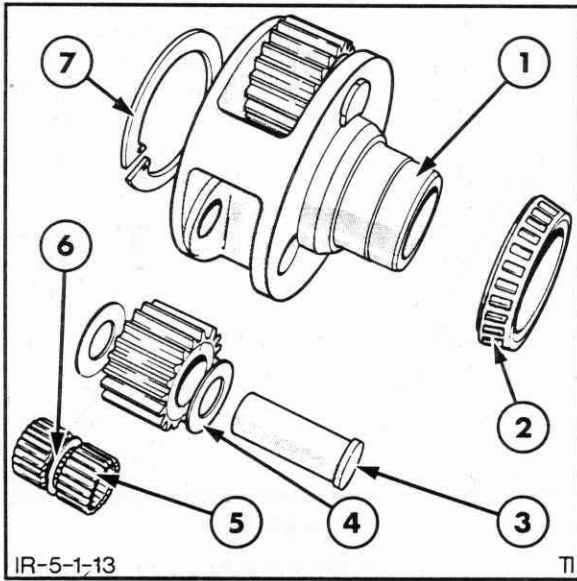

Figure 5-13
1. To disassemble the planetary gear assembly, bend up one end of the planet gear shaft retaining ring and withdraw the retaining ring. Push the planet gear shafts from the carrier and remove the planet gears complete with needle roller bearings and thrust washer, Figure 5-13.